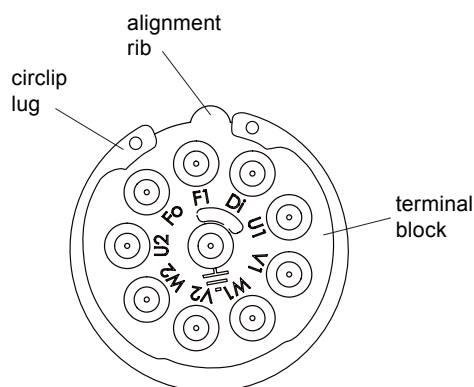

Fig 7. Terminal block and circlip fitting
Refit circlip (42) with lugs adjacent to terminals F0 and DI (Fig 7).